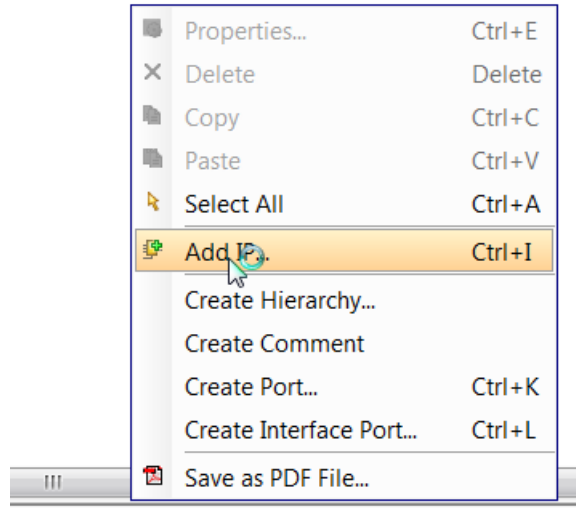

Figure 81: Add IP
3. In the IP Integrator canvas, right-click and select **Add IP** (Figure 81).